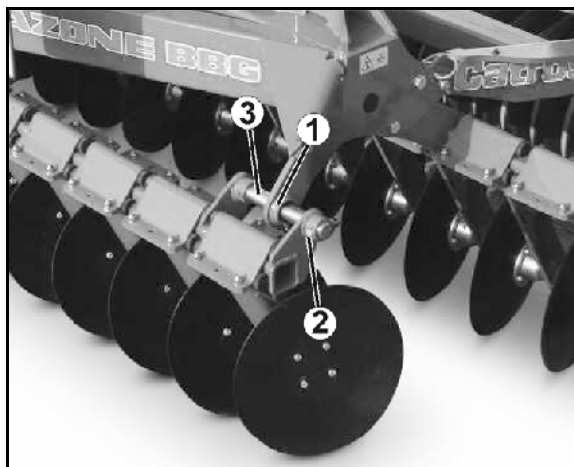

Fig. 54
To replace the slide bearings (Fig. 54/1), place the folded-out machine down so that the slide bearings are free from tension.
1. Release the screw union (Fig. 54/2) of the shifting shaft (Fig. 54/3).